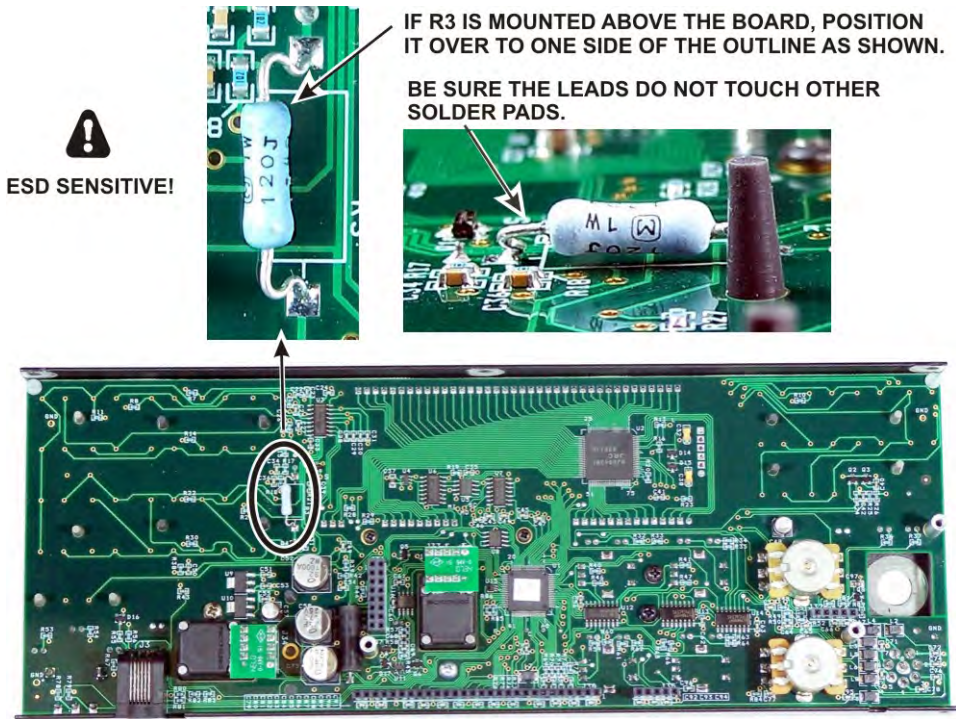
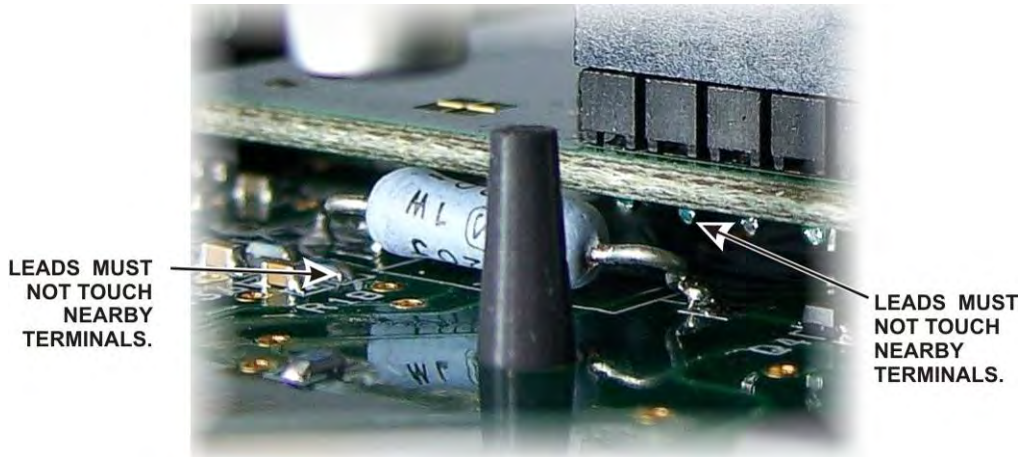

Figure 55. Positioning R3 on the Front Panel Board.
Figure 58. Checking the Position of R3.
☐ Locate resistor R3 on the front panel board (mounted on the front panel). If R3 is positioned above the board on its leads as shown in Figure 55, push it over to one side of the outline as shown. Be sure you don't push it so far its leads might touch the solder pads for other components on the board.
□ If you installed the Auxiliary DSP board for the KRX3 and adjusted the position of resistor R3 as shown in Figure 55, look between the DSP boards and the front panel board to verify that the leads are not touching any terminals on either the aux DSP or front panel boards (see Figure 58). If necessary, unplug the DSP board assembly and adjust the position of R3 to ensure the leads are clear of other solder pads before proceeding.